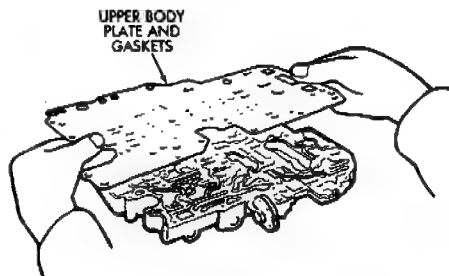

Fig. 1 Removing/Installing Upper Body Plate And Gaskets
- (1) Remove valve body plate and gaskets (Fig. 1). Discard gaskets.